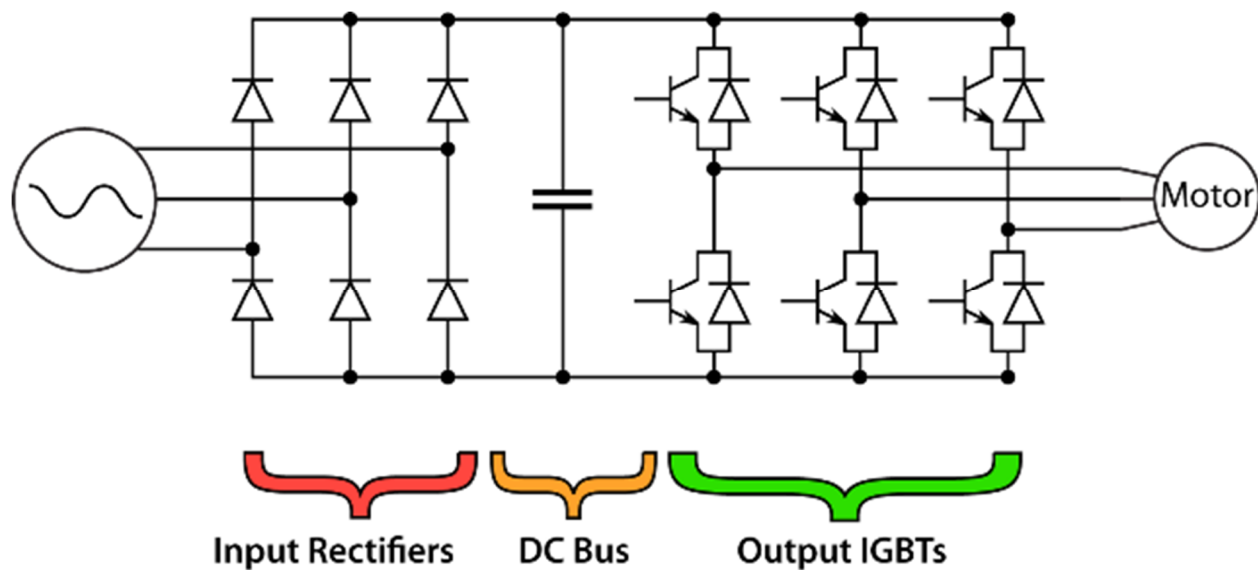

Figure 1: Conventional 6-pulse VFD Circuit Diagram
Figure 1 below shows a simplified circuit diagram of a conventional 6-pulse VFD. Note that there are three sections to the VFD – the rectifier section, the DC bus and the inverter section (shown as “Output IGBTs” in Figure 1.) For a 6-pulse VFD, the rectifier section consists of diodes. The diodes act like check valves and only allow current flow in one direction. This results in pulses of DC current which are smoothed out by the capacitor on the DC bus. The IGBTs on the inverter (output) section are basically switches that operate very quickly to rebuild the sine wave at the desired frequency.
Sometimes referred to collectively as “Multi-pulse” drives, 12 and 18 pulse drives use a phase shifting transformer and multiple rectifier sections to reduce the amount of harmonic distortion created by the drive. Referring back to Figure 1 – a 12 pulse drive includes (2) 6-pulse rectifiers and an 18 pulse drive includes (3) 6-pulse rectifiers.